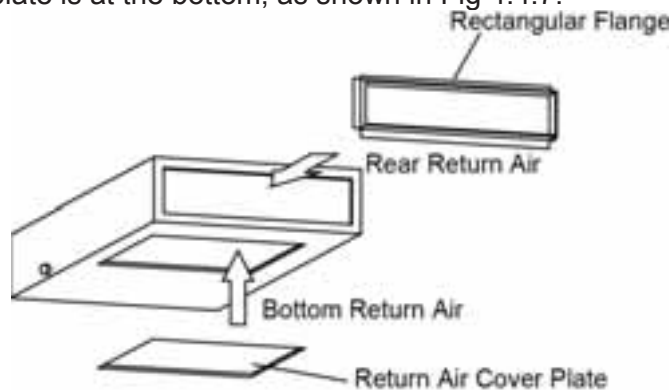

Fig 4.4.7
(1) The default installation location of the rectangular flange is at the back and the return air cover plate is at the bottom, as shown in Fig 4.4.7.